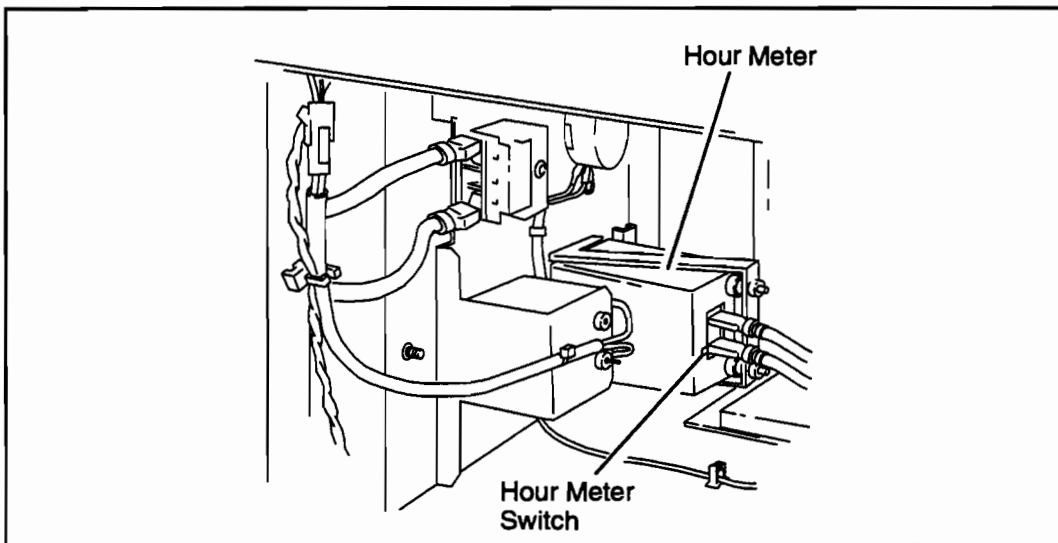

Figure 3-19. Setting the Hour Meter Switch
12. Verify that the hour meter switch is in the correct position. See Figure 3-19.